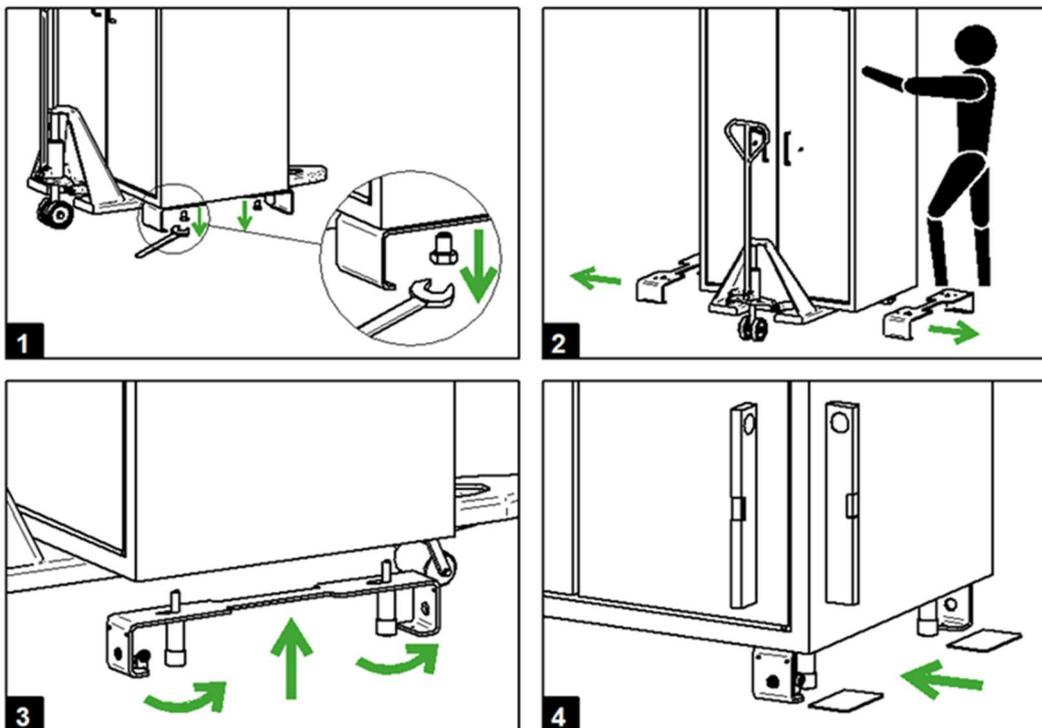

Fig. 14: Attaching the standing skids and adjustable feet
- ➔ Place the supplied steel spacer plates under the levelling foot/standing skid (Fig. 14, 4).